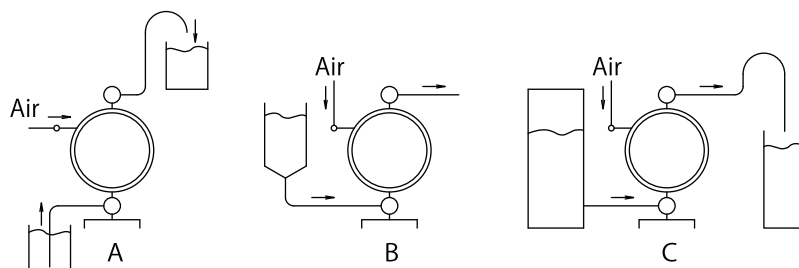

Fig2.1
- 1) Decide where the pump should be installed and secure a suitable space (see Fig. 2.1 A to C).